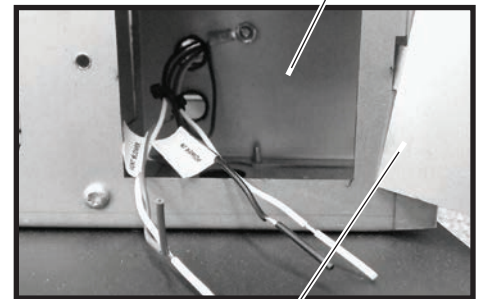
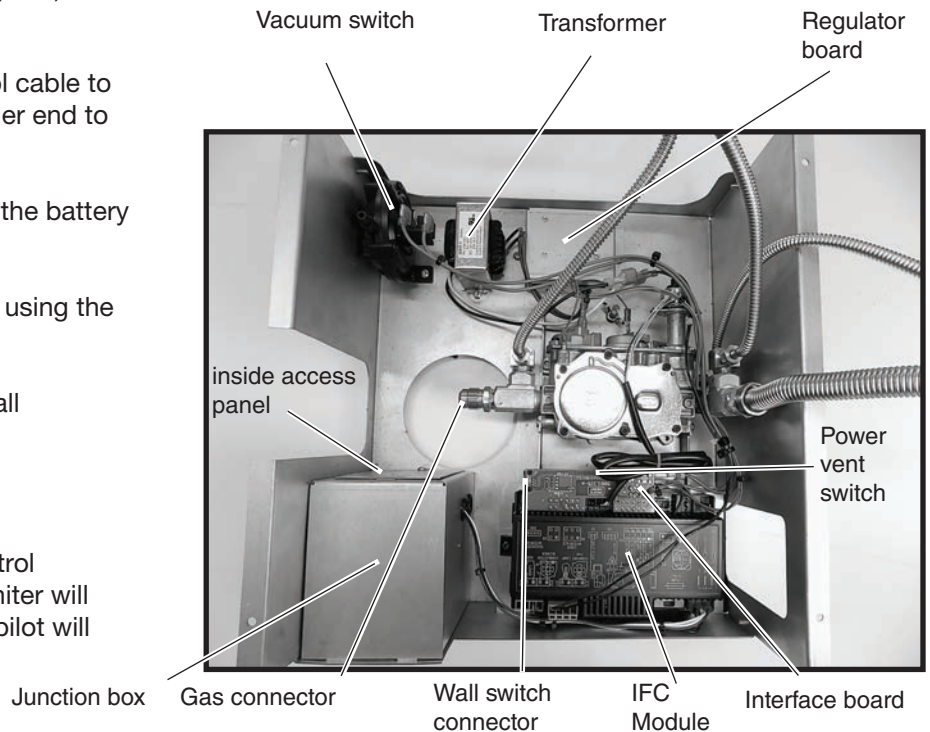
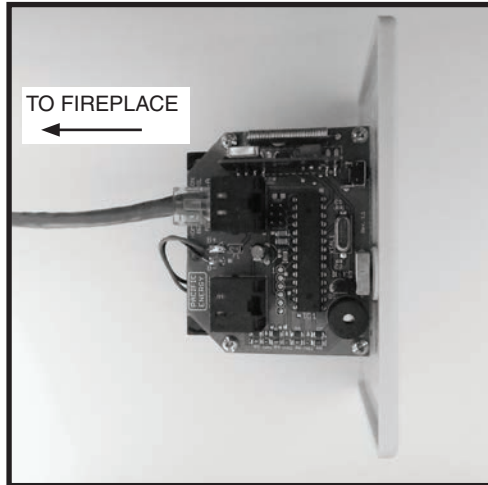
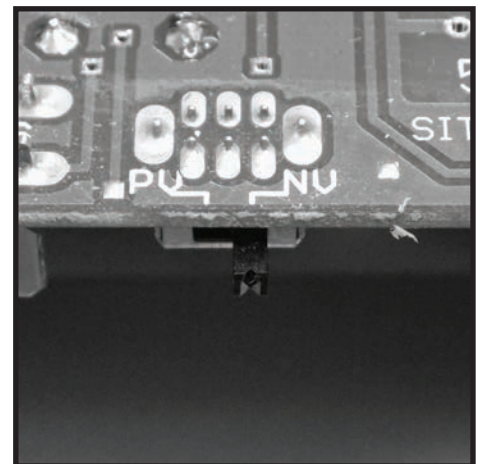

Figure 23: Outer access panel.
Figure 24: Control box.
Figure 26: Wall switch - electronics side.
Figure 28: Natural vent - Power vent switch.
4. Connect 110 V. AC electrical supply to the wires installed inside the junction box - (Figure 23). The fireplace is rated at 110 volts, 60Hz, 0.25A. The optional power vent kit is rated at 115 volts, 60Hz, 1.8A.
The electrical wires can be accessed from both inside and outside the junction box by removing one of the two small access panels (Figure 23) & (Figure 24).
6. Route the wall switch control cable (supplied) as required to the wall switch (Figure 26).
7. Attach one end of the wall switch control cable to the wall control. (Figure 26) , and the other end to the interface board (Figure 24).
The NV / PV (Natural Vent / Power Vent) switch (Figure 28) on the interface board (Figure 24) is set according to which type of evacuating vent system is present. If the fireplace is vented without the assistance of a power vent, the switch should be set to "NV". If using a power vent, "PV" should be selected. Follow the instructions provided with the power vent kit for proper installation.
1. Connect the gas supply to the gas connector (Figure 24).